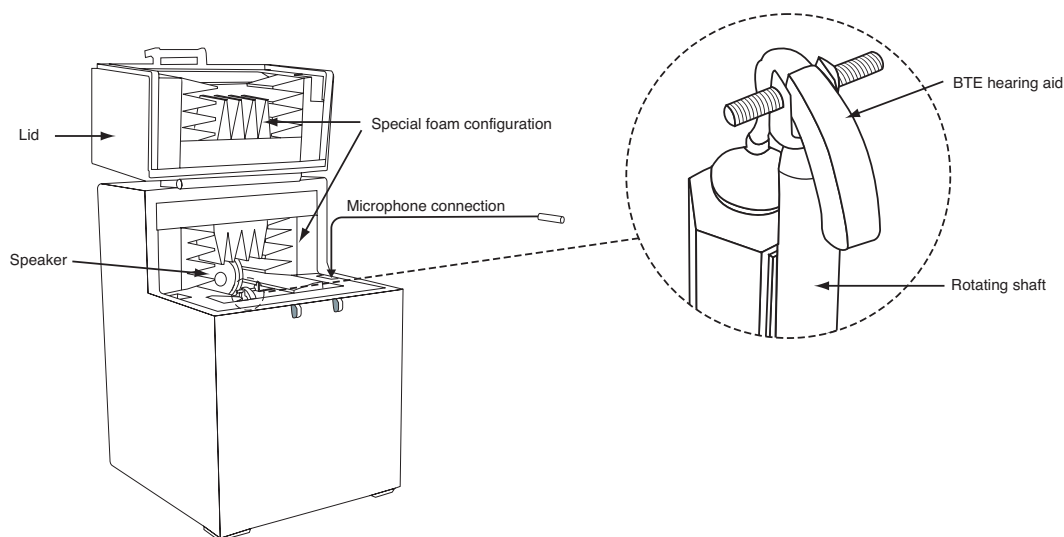

Figure 6.1.1—8120 Polar Plot Chamber
- **BTE Rotating Shaft:** This shaft (shown in Figure 6.1.1) is nearly cylindrical with a flatted surface on one side containing four small magnets. A fifth magnet is located on the top of the shaft for attachment of the Positioning Saddle that is used to hold the BTE hearing aid in place during testing. The HA2 coupler has a steel plate that is held by the magnets to the flatted portion of the shaft.